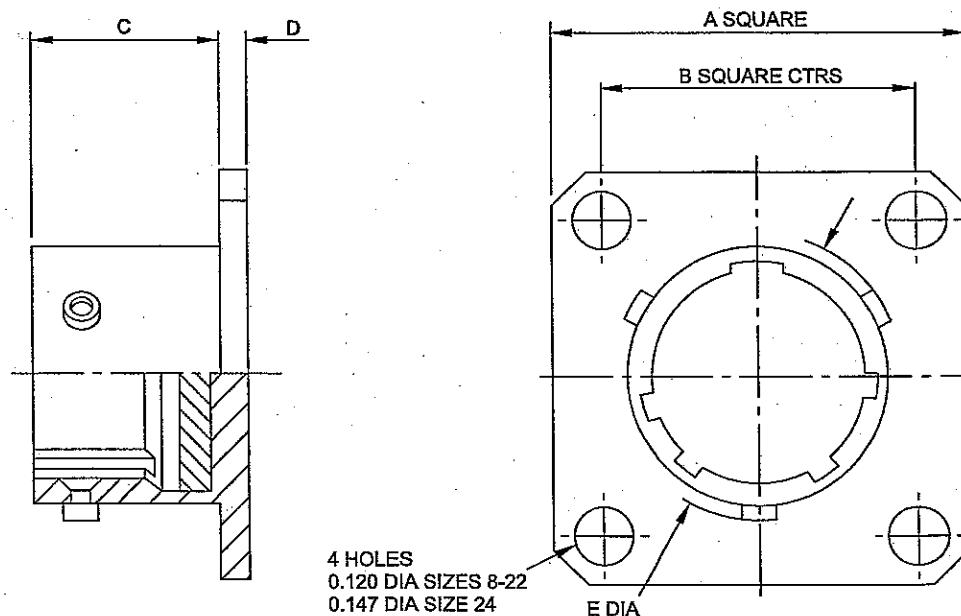

Fig 28—Dummy stowage receptacle, dimensions
18.2 Details of the normal oriented dummy receptacles which conform to MS3115 are given in Fig 28 and Table 17.